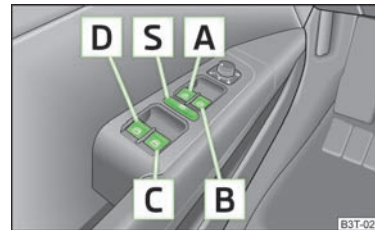

Fig. 25
- It is recommended to deactivate the electrically operated power windows in the rear doors (safety pushbutton) **S** » Fig. 25 when children are being transported on the rear seats.
The buttons for power windows in the rear doors can be deactivated by pressing the safety pushbutton **[S]** » Fig. 25. The buttons for the power windows in rear doors are activated again by pressing the safety pushbutton **[S]** again.